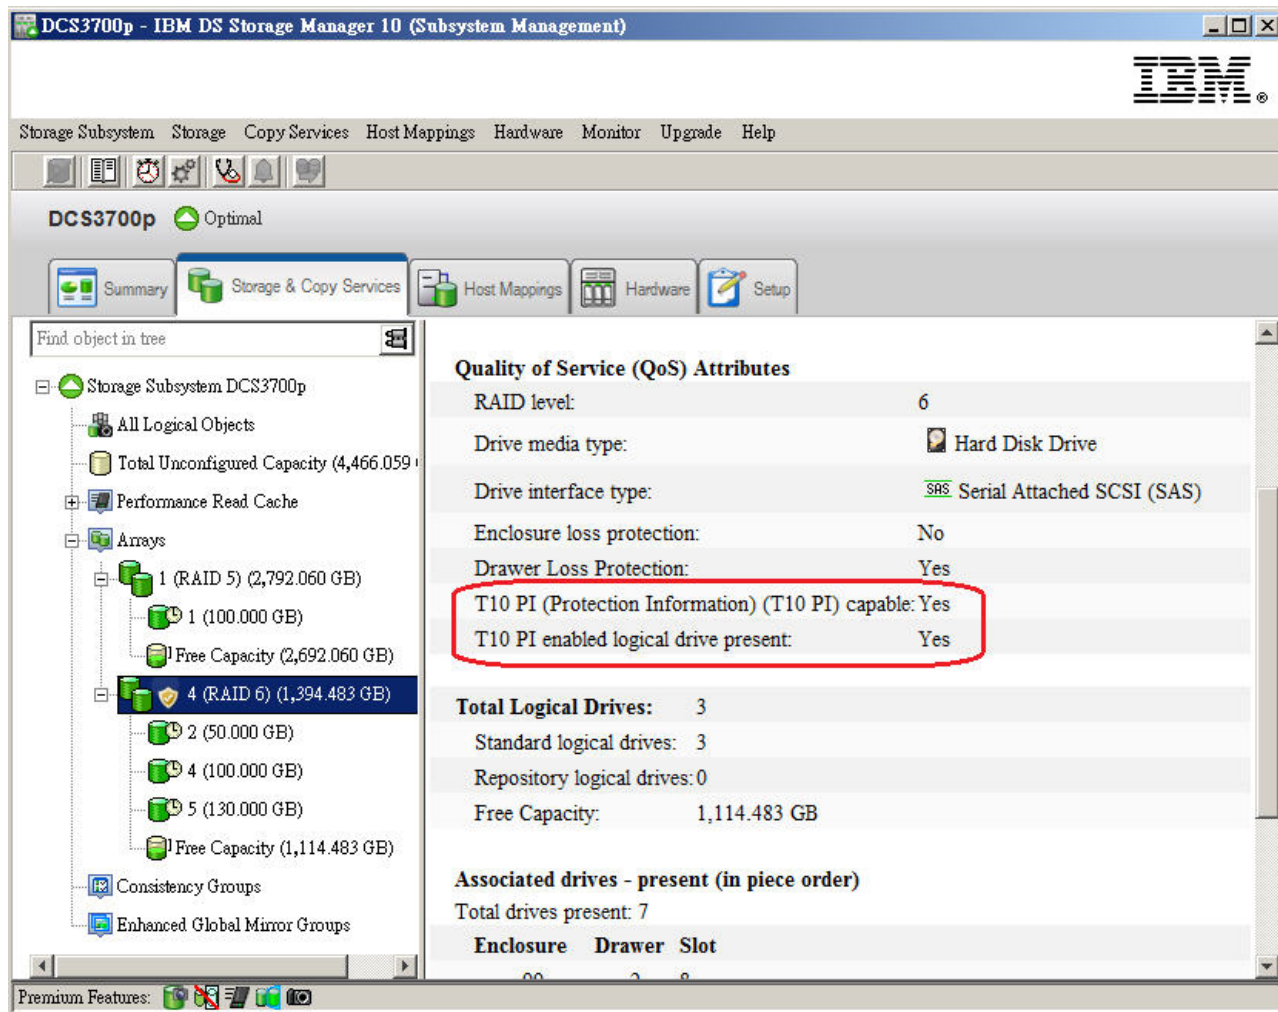

Figure 7. Example - Logical Drive 4 of RAID array 4 - T10PI not enabled
**Note:** You do not have to create all logical drives in a T10PI-capable RAID array with T10PI enabled. For example, logical drive 4 of RAID array 4 is not T10PI enabled but logical drives 2 and 5 are T10PI enabled as shown in Figure 7 on page 57. However, because you can only enable T10PI functionality at the time of creation, it is recommended to create a logical drive with T10PI enabled and then disable it at later time, if necessary.